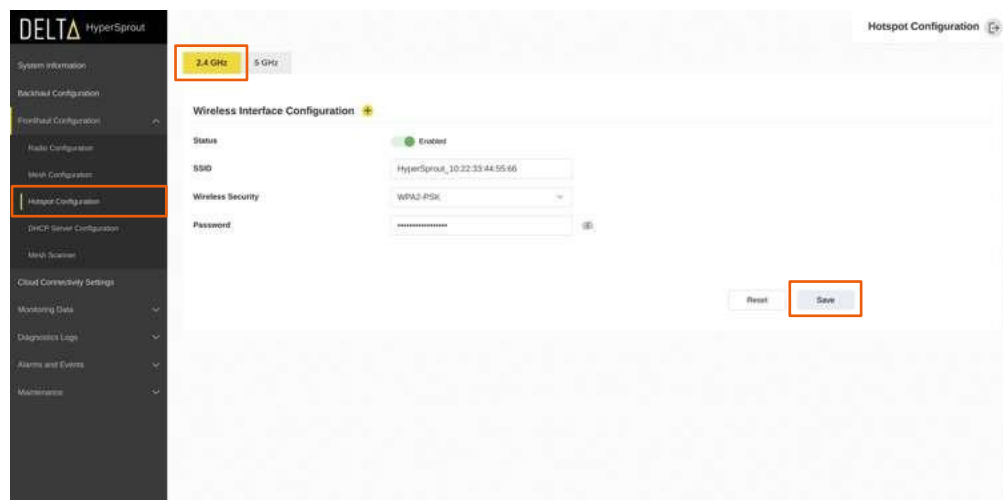
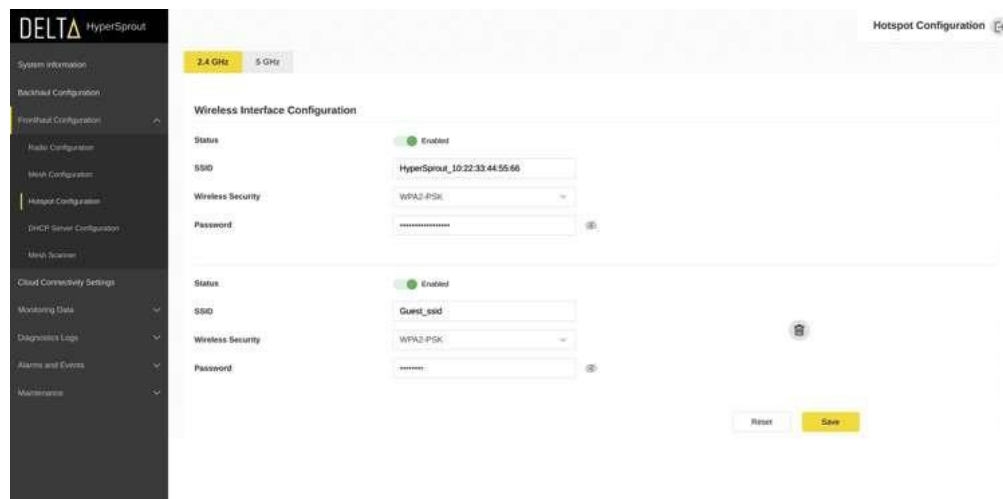
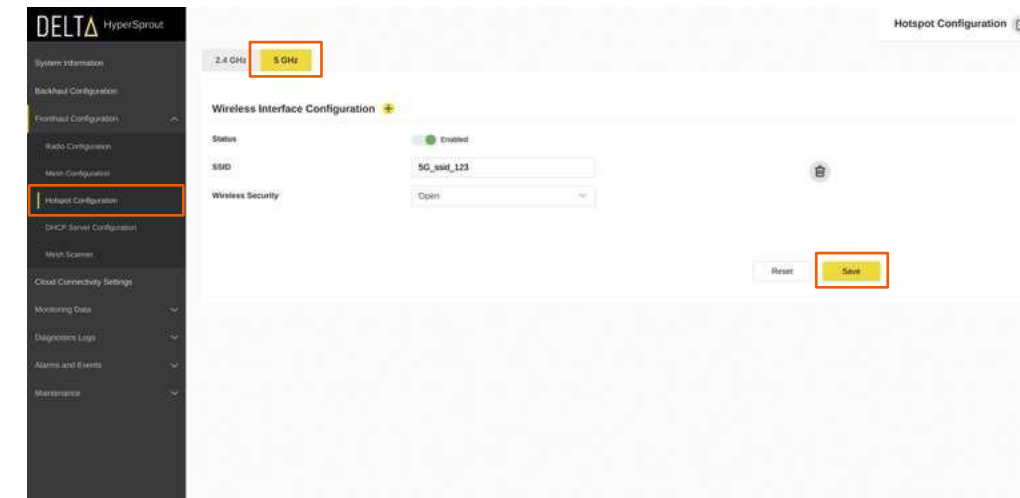

Figure 46: Hotspot - 2.4Ghz - Representation - 1
Figure 47: Hotspot - 2.4Ghz - Representation - 2
Figure 48: Hotspot - 5Ghz - Representation - 1
- Provisioning of the 5GHz band for hotspot operation follows a similar procedure as for 2.4GHz. See *Figure 46*, *Figure 47*, *Figure 48*, *Figure 49*.